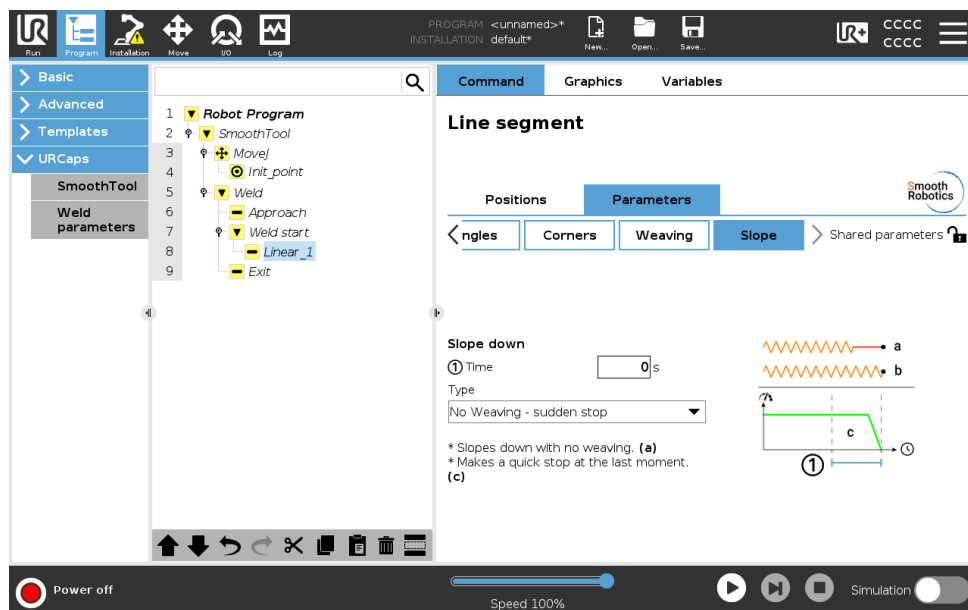

Figure 10.1: The slope parameters no weaving
- If *No Weaving - sudden stop* is enabled the weaving will stop while the slope down is happening see figure 10.1.